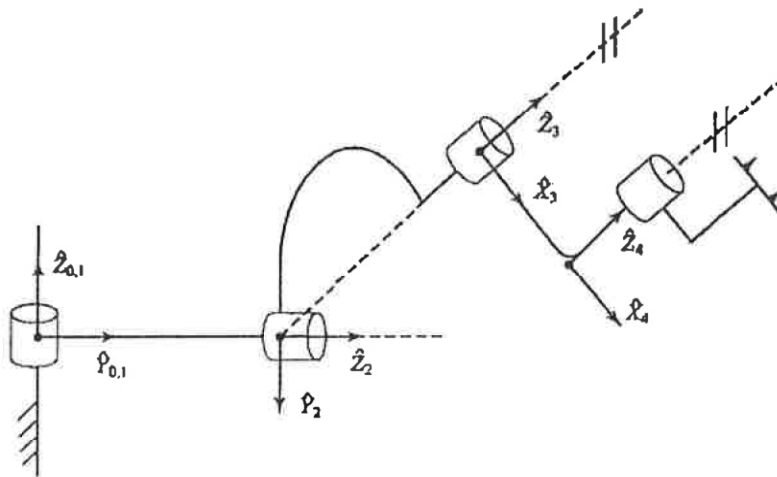

Figure 1
4. A 4R manipulator is shown schematically in Figure 1. The nonzero link parameters are  $\alpha_1 = -90^\circ$ ,  $d_2 = 1$ ,  $\alpha_2 = 45^\circ$ , and  $a_3 = 1$ , and the mechanism is pictured in the configuration corresponding to  $\Theta = [0, 0, 90^\circ, 0]^T$ . Each joint has  $\pm 180^\circ$  as limits. Find all values of  $\theta_3$  such that  ${}^0P_{4ORG} = [0.0, 1.0, 1.414]^T$